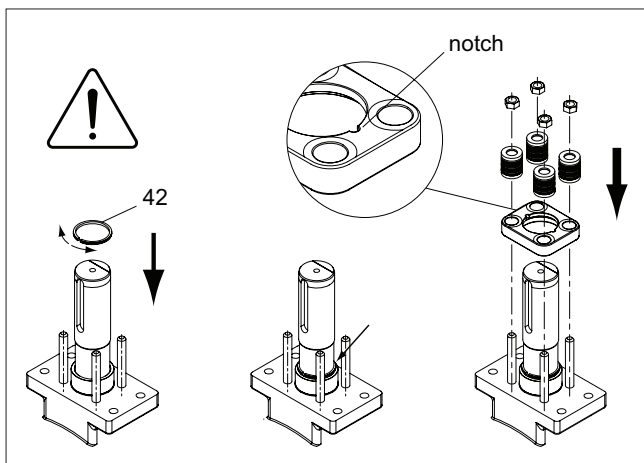

Fig. 17 Mounting the retainer ring
- Unfasten the nuts (18) and remove the disc spring set (150), the gland (9a), the retainer ring (42) and the compression ring (9b).
- Remove old packing rings (20). Do not damage the surfaces of the packing ring counterbore and shaft.
- Slip the retainer ring (42) on the shaft and push it against the compression ring, see Figure 17. See also the caution.